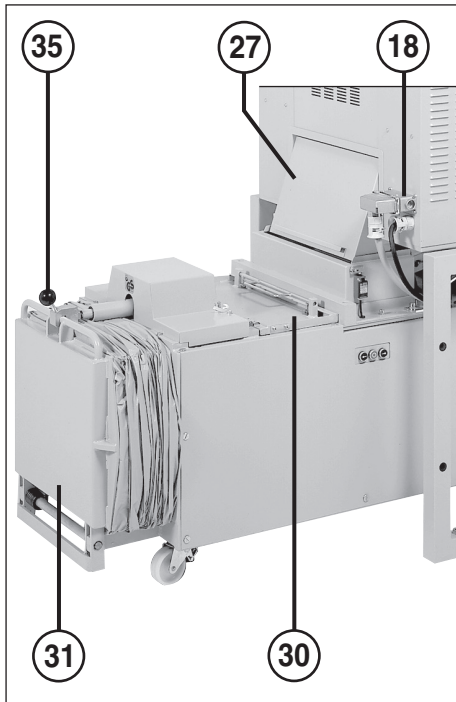

fig. 2
If the key is pressed and held (for at least 2 seconds), the baling ram travels a short distance in reverse and the locking lever (35) (fig. 2) is advanced a short distance (pressure relief at the discharge flap).